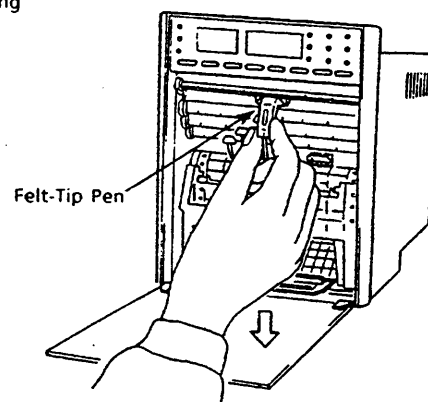
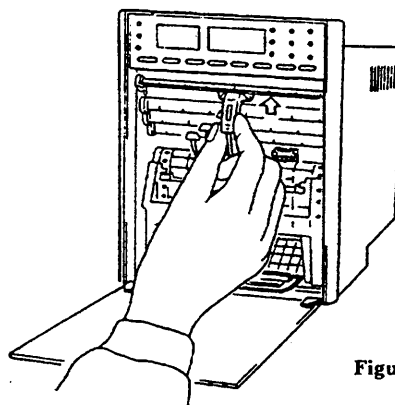

Figure 5.10 Replace the Felt-Tip Pen
Figure 5.11
- (3) Grasp the felt-tip pen and pull it out of the cartridge holder. (see Figure 5.10.)
- (4) Remove the pen cap of the new felt-tip pen.
- (5) Insert the new pen cartridge into the pen holder and fix it into place. (see Figure 5.11.)
- (6) Re-place the scale in position.